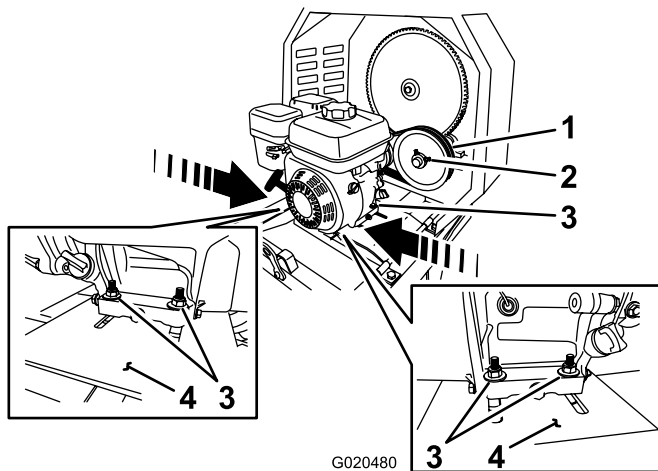

Figure 55
- B. Loosen the nuts and bolts that secure the engine to the engine deck (Figure 55).
- **Increase the air gap**—move the engine away from the idler pulley (Figure 55).
- **Decrease the air gap**—move the engine toward the idler pulley (Figure 55).